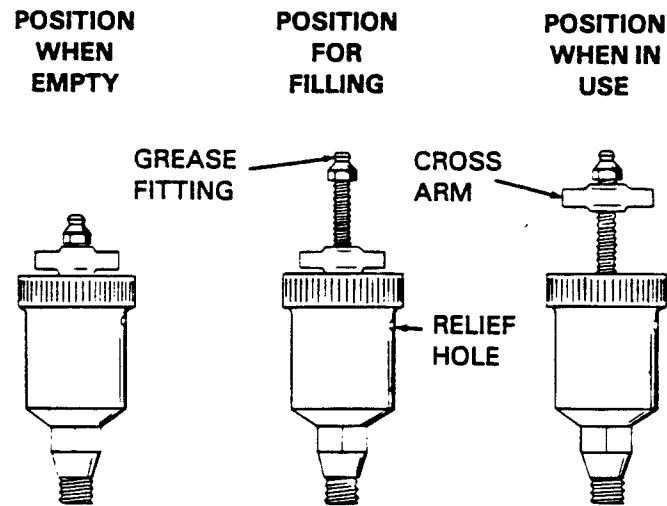

Figure 4. Automatic Lubricating Grease Cup
Fill the grease cup (13) through the grease fitting with No. 2 lithium base grease until grease escapes from the relief hole. Turn the grease cup arm counterclockwise until it is at the top of the stem; this will release the spring to apply grease to the seal (see Figure 4).